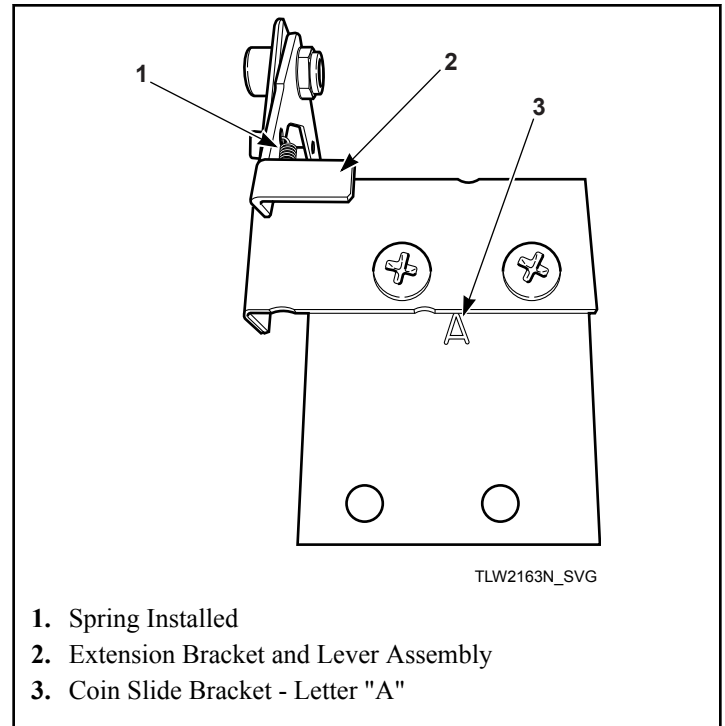

Figure 30
5. Install extension bracket and lever assembly onto coin slide bracket using two screws and locknuts. Refer to *Figure 30*.
- IMPORTANT: Install coin slide bracket with side marked "A" facing up and toward extension bracket and lever assembly. Refer to *Figure 30*.**